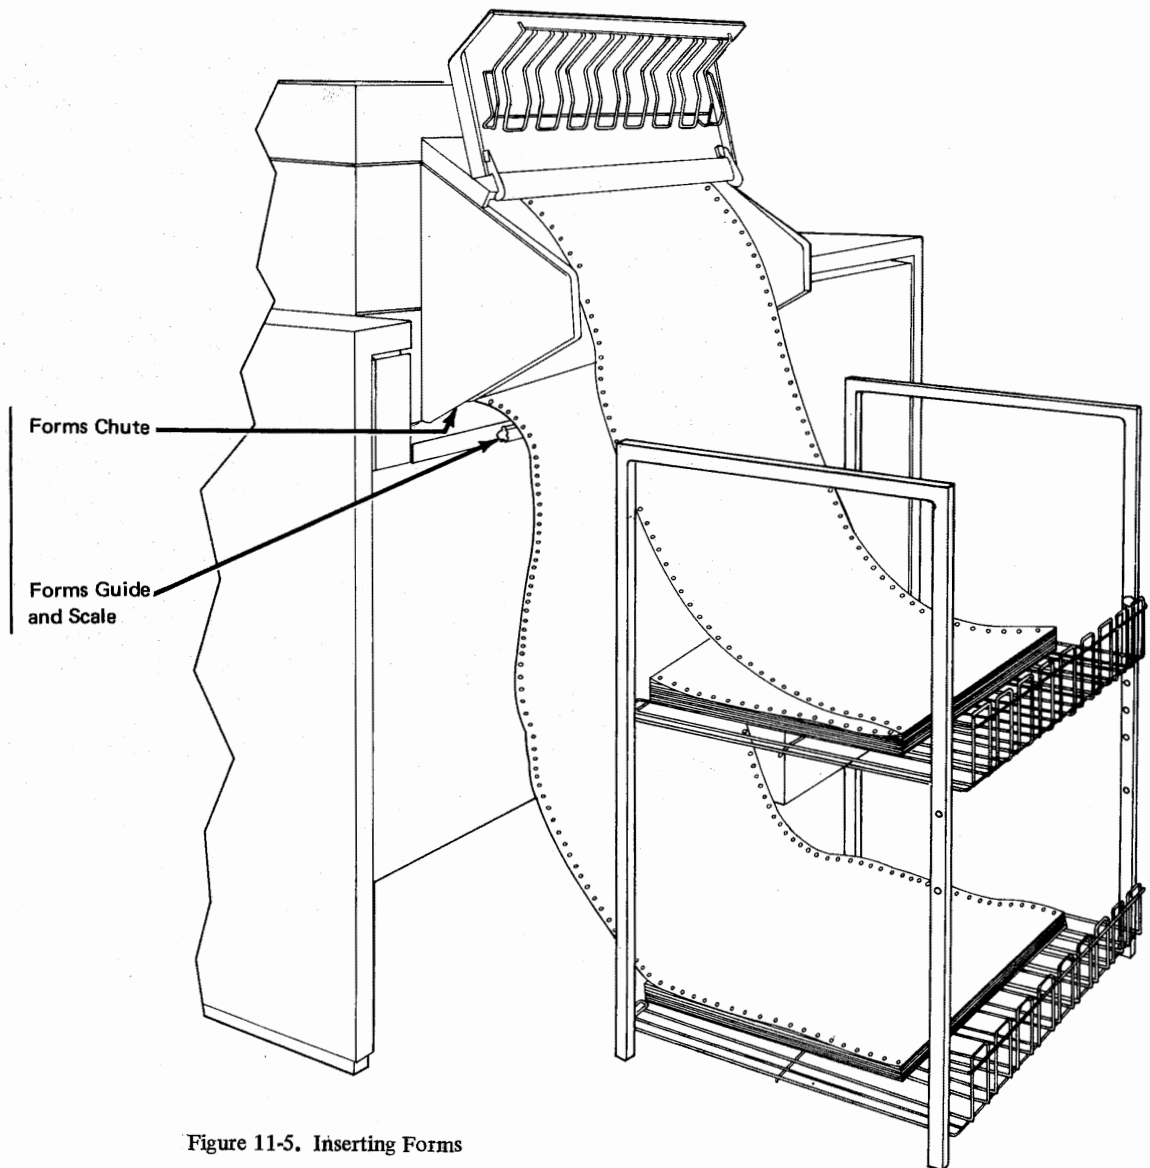
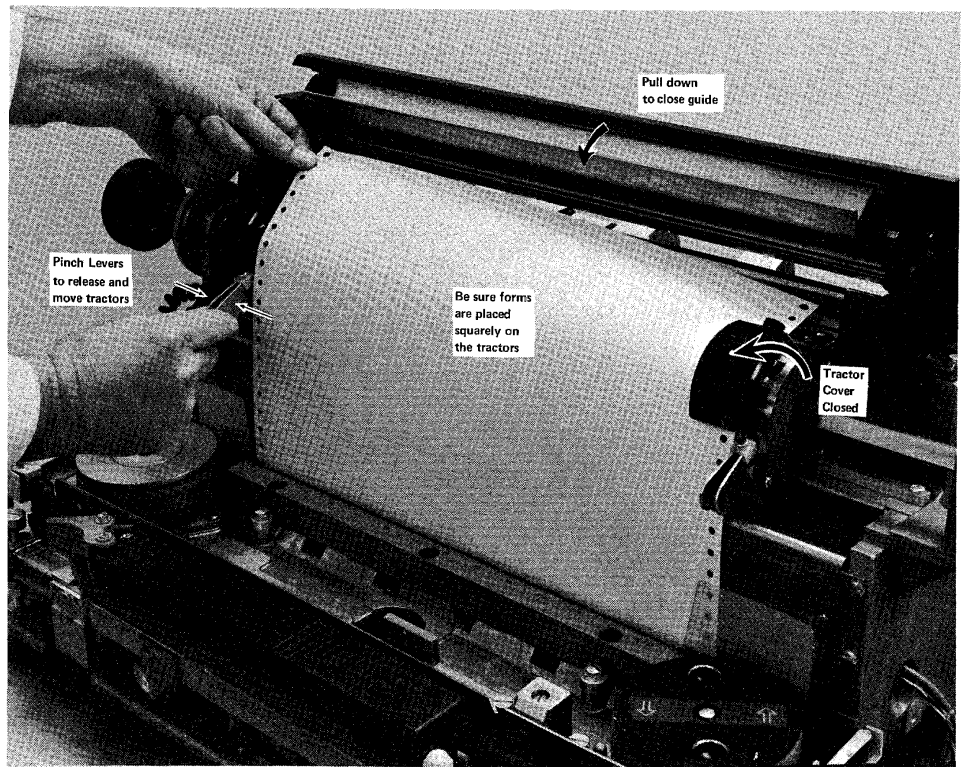

Figure 11-5. Inserting Forms
Figure 11-6. Placing Forms on Tractor Pins
- 4 Slide the rear forms guide apart and feed the forms squarely into the forms chute as shown in Figure 11-5.
- 5 Squeeze the tractor release levers, shown in Figure 11-6, and move each tractor to accommodate the forms width.
- 1 Check the forms tension. The tractor pins should keep the forms taut, but should not hold the forms so taut that the form's feed holes tear when printing. Refer to Figure 11-6 if you need to move the tractor pins for more or less tension on the forms.
- 3 Align the form to the printer's print position indicator. Refer to Figure 11-6 if you need to move the tractor pins to align the form to the print position indicator.
- 4 Position the form in the forms chute so that the form is aligned to the same position on both the rear form alignment scale (Figure 11-5) and the front form alignment scale. Refer to Figure 11-6 if you need to move the tractor pins to align the forms.